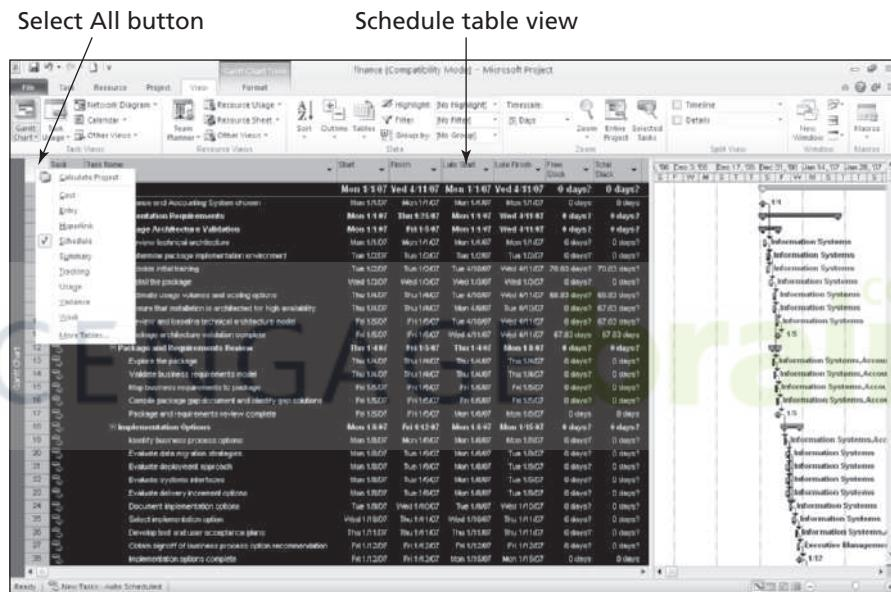

FIGURE A-11 Changing table views
6. Right-click the Select All button to access different table views. Move your mouse to the Select All button to the left of the Task Name column symbol, and then right-click with your mouse. A shortcut menu to different table views displays, as shown in Figure A-11. Experiment with other table views and then return to the Table: Entry view.